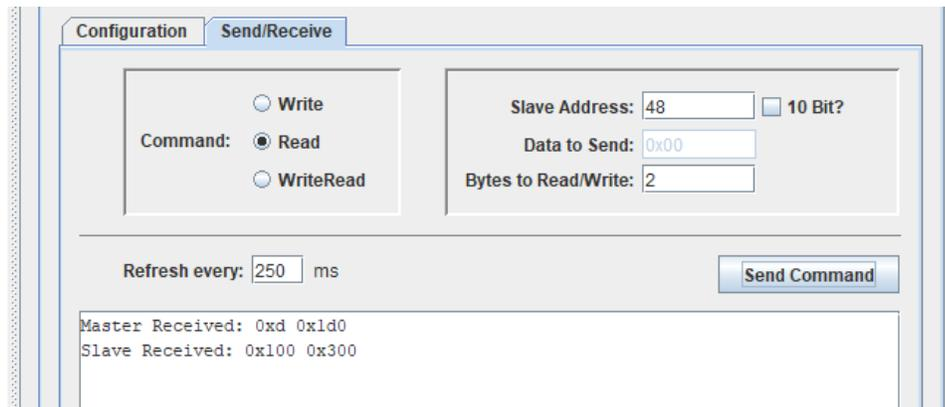

Figure 5-18 Send Command to Read Temperature Sensor
2. As shown in **Figure 5-18**, send a “Read” command requesting two bytes. The ADT7420 encodes the temperature in a 13-bit number (discard the three LSBs). See the ADT7420 datasheet and/or the “Test Adapters User Manual” for information about converting the raw data to temperature.